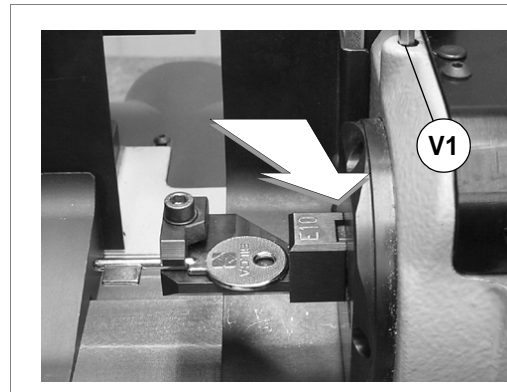

Fig. 78
- 5) Fit the E10 adapter, with the key blank in the rotating clamp (S1) from the inside, take the adapter up to the side of the self-centring jaws (fig. 78) and slightly close the grips on the rotating clamp with the 'T' wrench (T4).